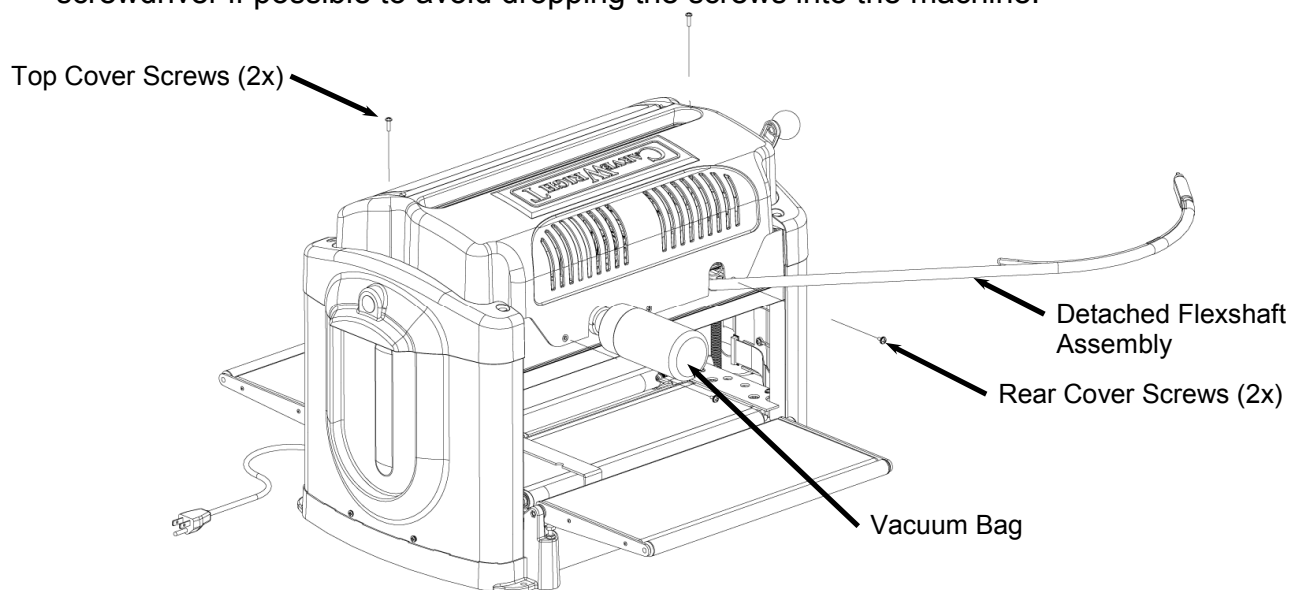

FIGURE 4: EXPLODED VIEW OF THE COVER SCREWS
4. **Remove the screws securing the cover:** Remove the four cover screws as shown in Figure 4 with the #2 Phillips screwdriver. Use a magnetic tipped screwdriver if possible to avoid dropping the screws into the machine.
- f. Replace the four screws as shown in Figure 4. The two long screws go in the vertical locations.